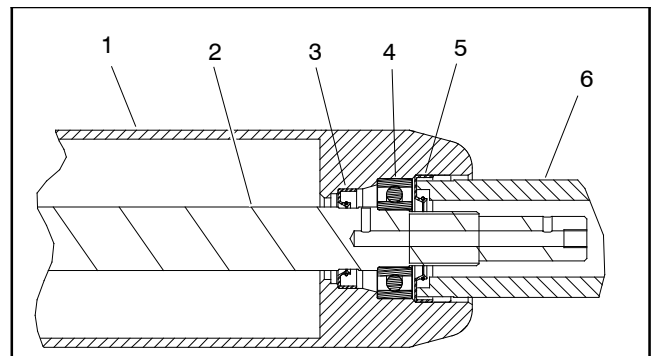

Figure 43
D. Carefully install first outer seal into roller tube making sure that seal lip (and garter spring) faces end of tube. Use bearing/outer seal tool (see Special Tools in this chapter) and soft face hammer to lightly seat seal (Fig. 43). Make sure that shaft and bearings still freely rotate after seal installation.